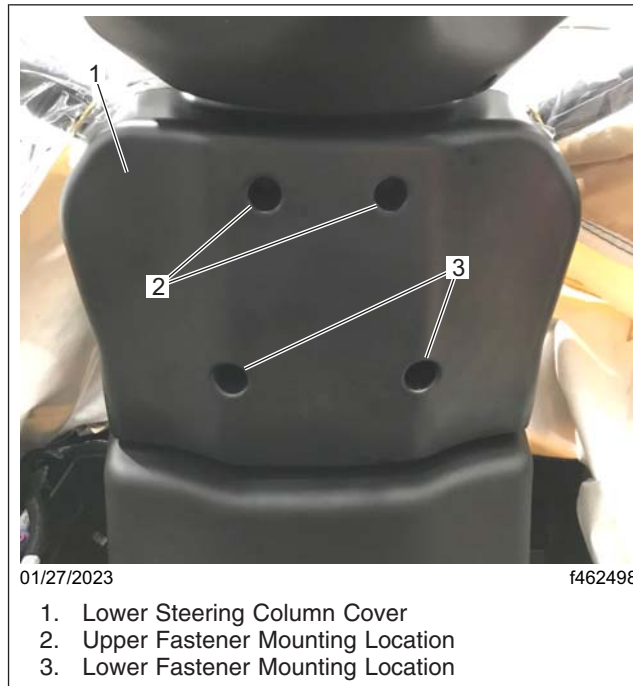

Fig. 2, Lower Steering Column Cover Removal
5. Remove the four fasteners from the lower steering column cover. See Fig. 2.
12. Install the lower steering column cover. Tighten the two upper fasteners 13 lbf-in (147 N-cm). Tighten the two lower fasteners 30 lbf-in (339 N-cm). See **Fig. 2**.